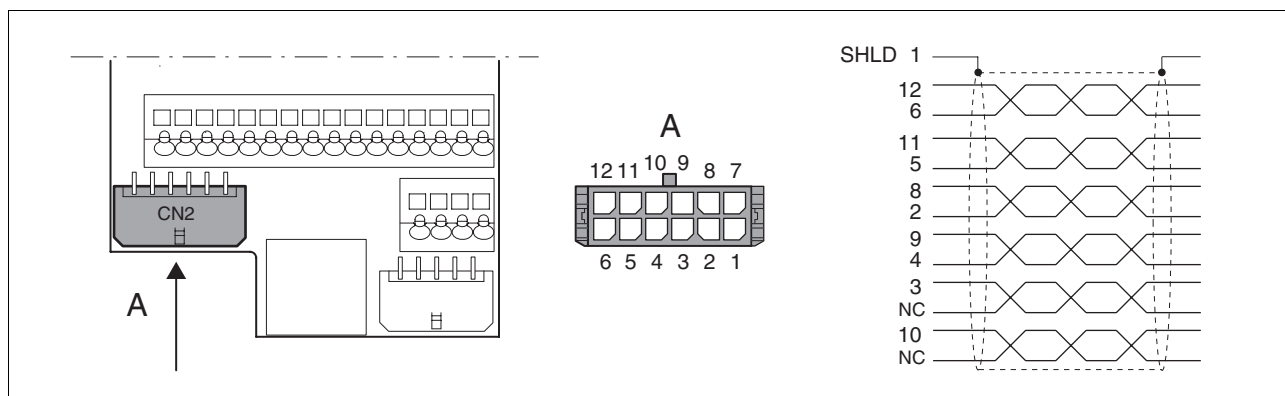

Figure 6.14 Wiring diagram of motor encoder
- ▶ (1) Remove the cable sheath, length A depends on the device, see table.
- ▶ (2) Shorten the shield braiding. The shield braided filler wire is required as the connection.
- ▶ (3) The red and the violet braided wire is not required and can be cut off. Isolate the shield lead with shrink wrap.
- ▶ (4) Crimp the plug contacts on the remaining braided wires and on the isolated shield wire. Isolate the shield braiding with shrink wrap. Plug the crimp contacts into the connector shell; for the pin assignment see Figure 6.14.